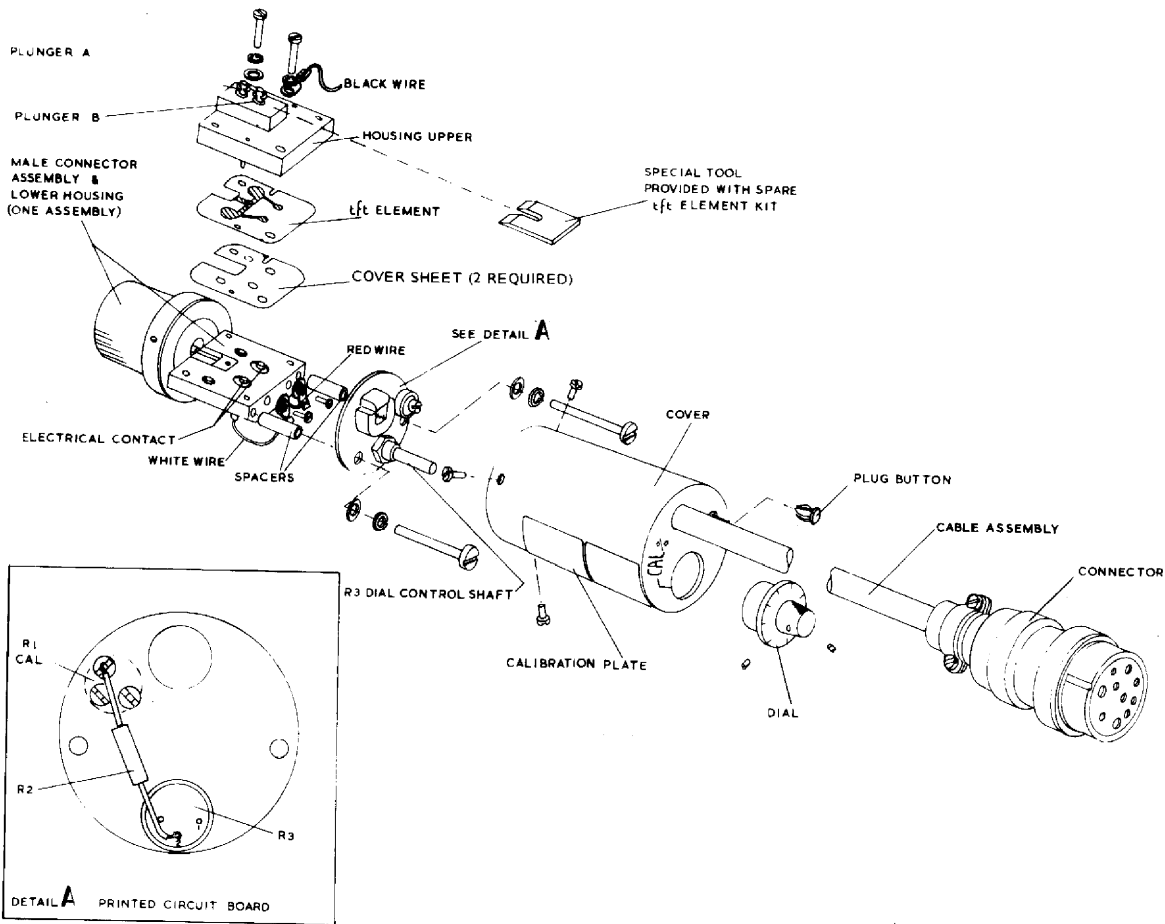

Figure 4
Field Servicing of the microwave assembly section (Male connector assembly and lower housing, see diag. fig. 4) is not possible and if any part of this becomes defective, the unit should be returned to the factory.
1. Loosen setscrew and remove dial from dial shaft (See diagram, fig.4)